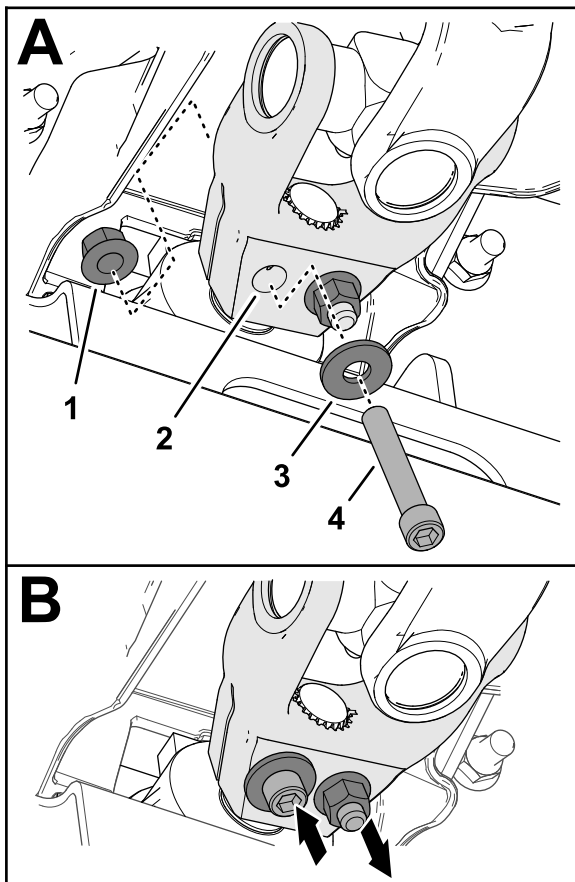

Figure 16
6. Assemble a socket-head capscrew (3/8 x 2-1/4 inches) through a washer (3/8 inch) and the hole in the driveshaft yoke (Figure 16), and secure the capscrew with a flange-locknut (3/8 inch).
- Assemble a socket-head capscrew (3/8 x 2-1/4 inches) through a washer (3/8 inch) and the hole in the driveshaft yoke from the opposite direction (Figure 16), and secure the capscrew with a flange-locknut (3/8 inch).